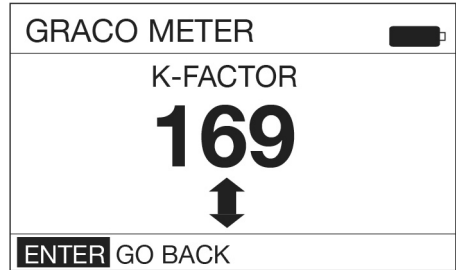

FIG. 30
- Note the current k-factor is displayed. In the example shown in FIG. 30 the k-factor is 169.